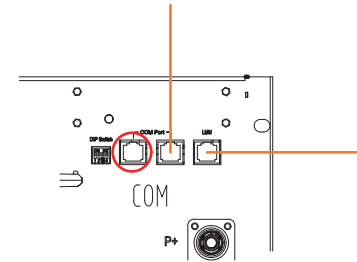

Figure 4-14 Terminal resistance in one of the HV900105
G. The last COM port of HV900105 without connected cable should be inserted with the terminal resistance from DC Junction box parts list. Please see the detailed information as Figure 4-14 shows.